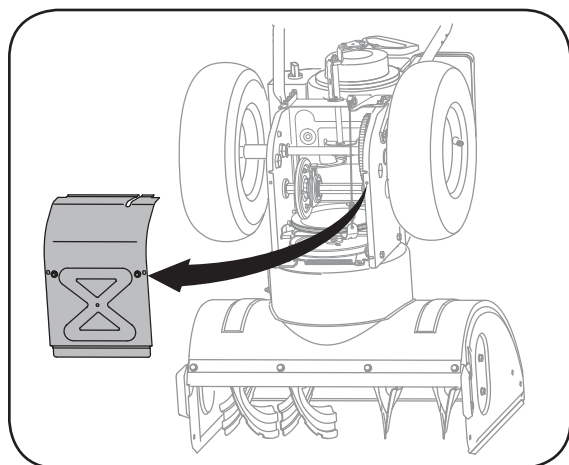

Figure 6-5
2. Carefully pivot the snow thrower up and forward so that it rests on the auger housing. Remove the frame cover from the underside of the snow thrower by removing four self-tapping screws which secure it. See Figure 6-5.
2. Carefully pivot the snow thrower up and forward so that it rests on the auger housing. See Figure 6-5.
1. Carefully pivot the snow thrower up and forward so that it rests on the auger housing. See Figure 6-5.
2. Remove the frame cover from the underside of the snow thrower by removing four self-tapping screws which secure it. See Figure 6-5.